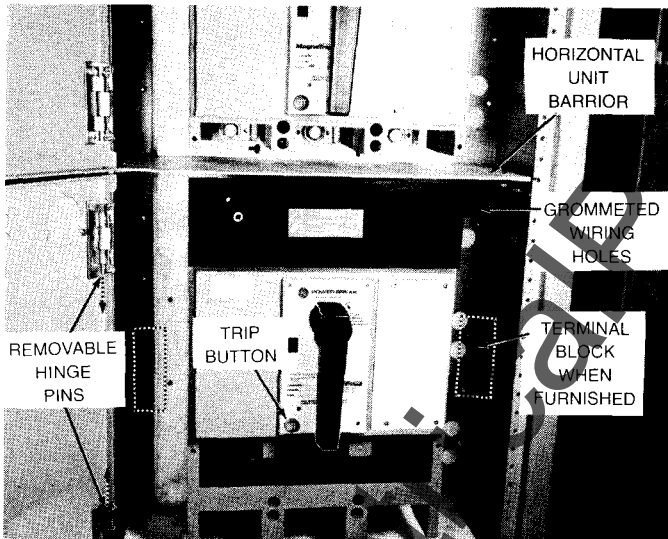

FIGURE 27.
1. Put breaker in *off* position by pushing trip button (Fig. 27).